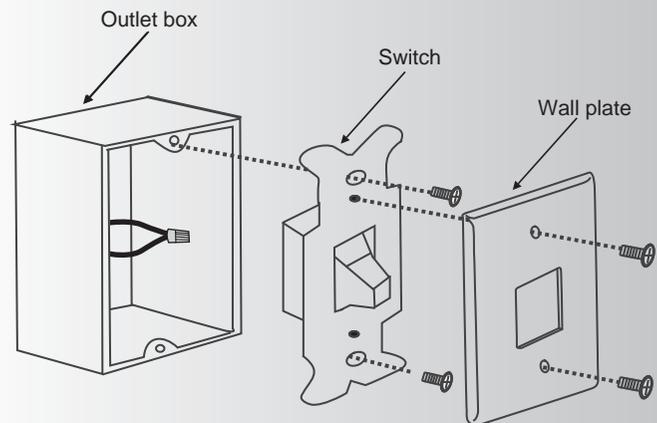

Fig. 29
Step 1. Remove the existing wall plate and the old switch from the wall outlet box. Wire nut the **BLACK** leads (hot) together and push back inside the outlet box. (Fig. 29)